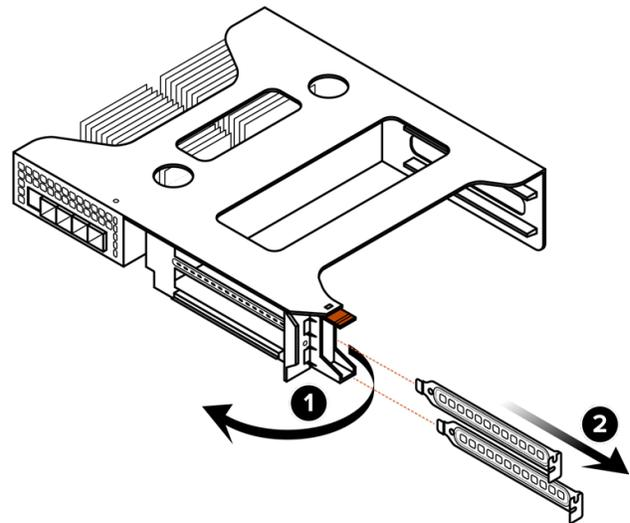

Figure 13-14. Removing Riser 0 Blanks
1. Set the new riser 0 on a clean, flat surface and open the plastic retaining clip, as shown on Figure 13-14.